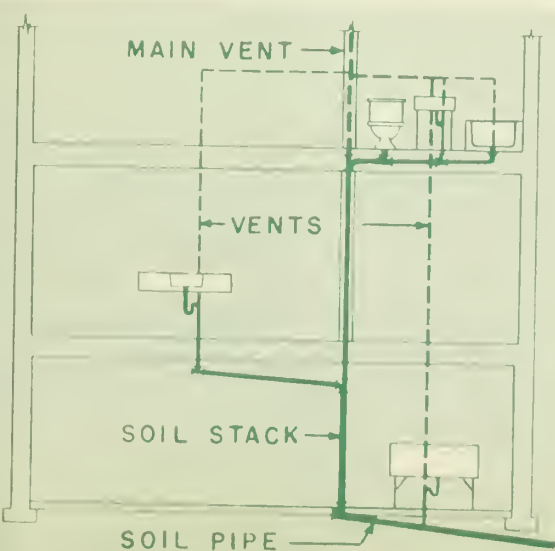

Figure 4.—Diagram of economical waste and vent piping.
Once you've decided on the kind of bathroom you need, the next step is to choose the best place in your house for it. You can save money by locating your bathroom next to or above the kitchen or washroom where there is other plumbing (fig. 4). Also try to locate your bathroom on the side of the house nearest disposal system.
**Waste pipes.** A 3- or 4-inch vertical soil stack carries wastes away from the bathroom (fig. 4). In planning the plumbing, keep in mind that 6-inch rather than 4-inch studs are needed in the wall where the soil stack goes.